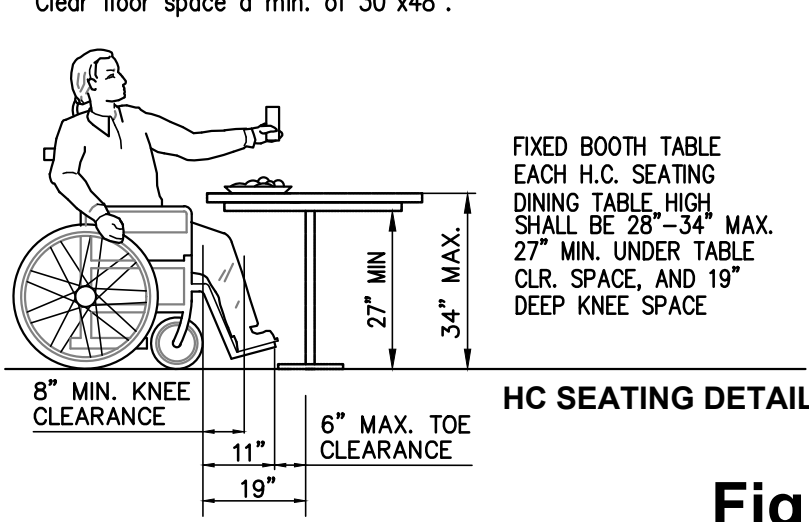
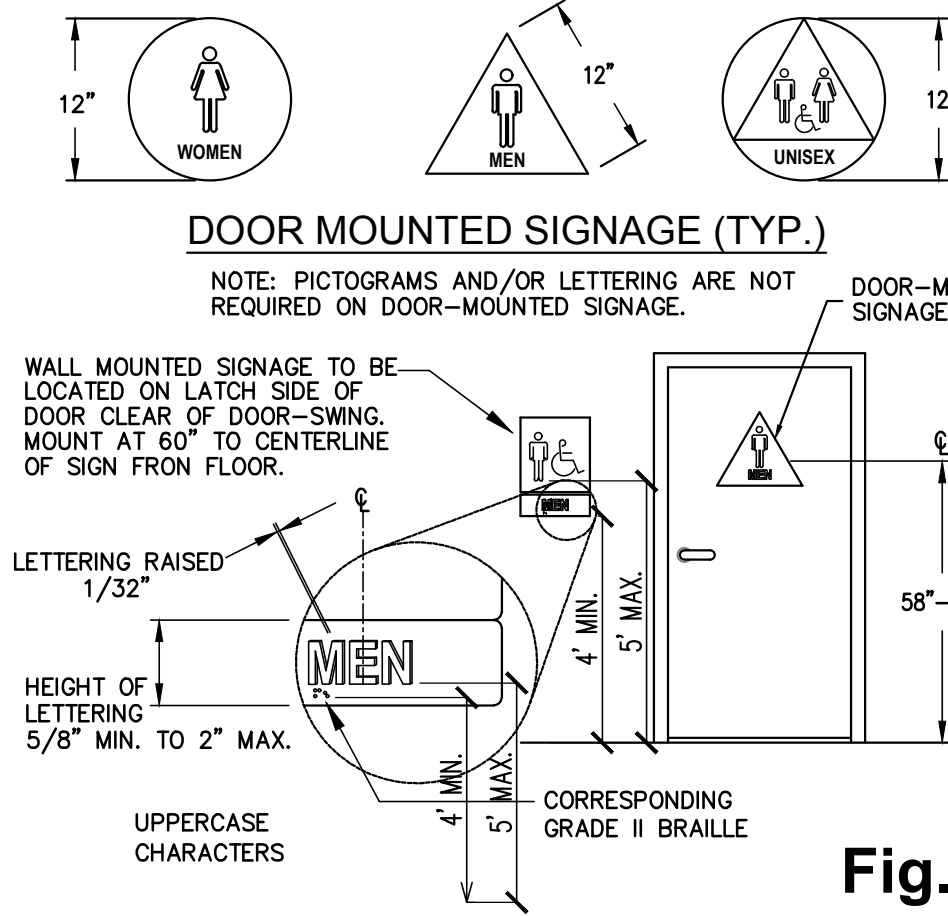

Fig. 2
Fig. 3
- SINGLE ACCOMMODATION TOILETS** (See Fig.2 and Fig.3)